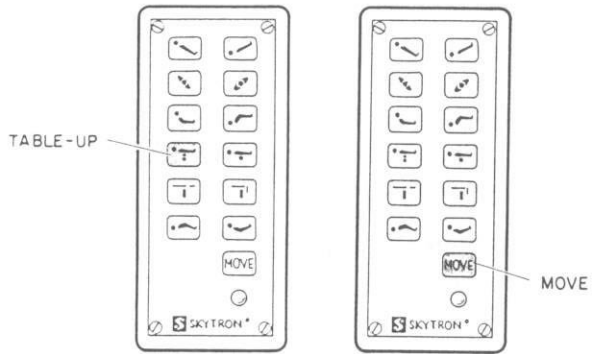

Figure 2-3. Brake System Activation
- a. Floor Lock/Brake System. Initial activation of any positioning function will activate the brake system first. To activate the brakes without affecting table positioning, press the TBL-UP button. See figure 2-3. The elevation cylinder will not function until the brakes are completely extended.